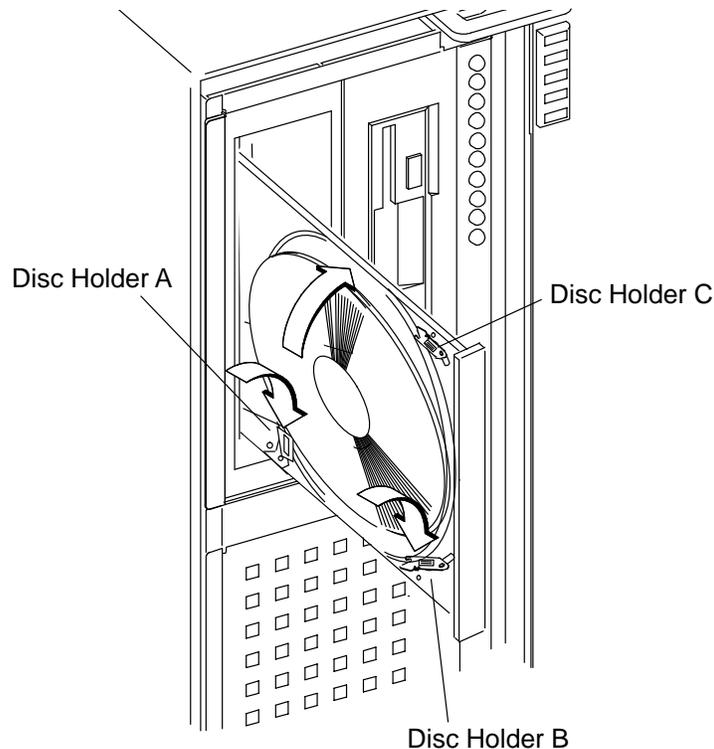

Figure 2-5. Inserting a CD-ROM Disc (Vertical Mount)
- 1.** Hold the disc with the label side to the left and place the edge of the disc onto disc holders A and B as shown in Figure 2-5.